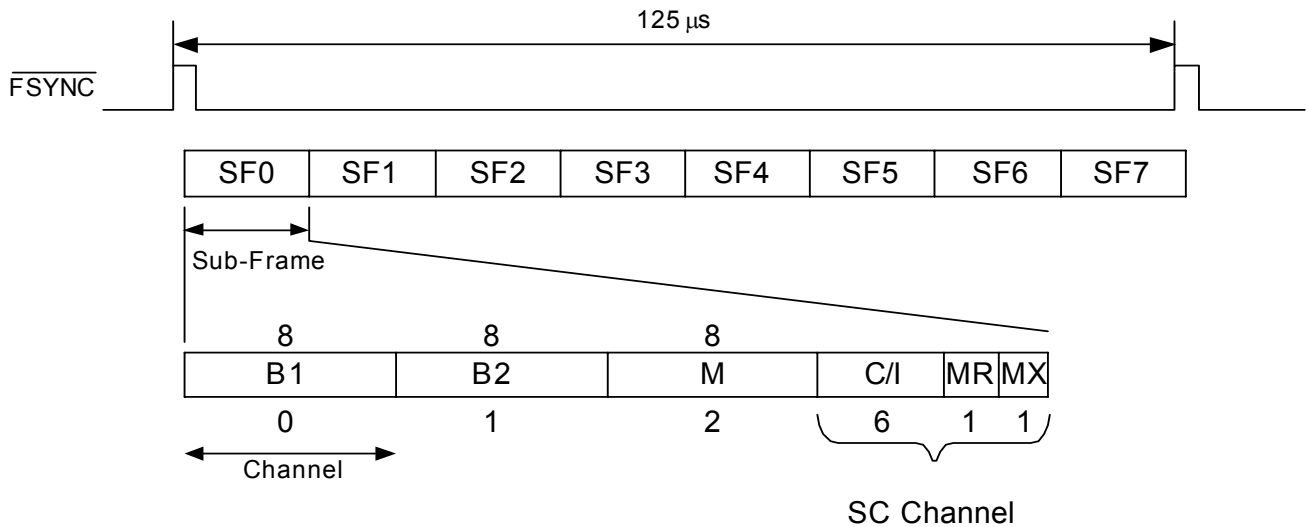

Figure 41. Time-Multiplexed GCI Highway Frame Structure
The GCI highway requires either a 2.048 or 4.096 MHz clock frequency on the PCLK pin, and an 8 kHz frame sync input on the FSYNC pin. The overall unit of data used to communicate on the GCI highway is a frame, which is 125 μs in length. Each frame is initiated by a pulse on the FSYNC pin and the rising edge signifies the beginning of the next frame. In 2x PCLK mode, there are twice as many PCLK cycles during each 125 μs frame versus 1x PCLK mode. Each frame consists of eight fixed timeslot sub-frames that are assigned using the Sub-Frame Select pins as described in Table 21 on page 39 (SDI_THRU, SDO, and $\overline{\text{CS}}$). Within each sub-frame are four channels (bytes) of data, including the two voice data channels (B1 and B2), one Monitor channel (M) for initialization and setup of the device, and one Signaling and Control channel (SC) for communicating status of the device and for initiating commands. Within the SC channel are six Command/Indicate (C/I) bits and two handshaking bits (MR and MX). The C/I bits are used for status and command communication, whereas the handshaking bits Monitor Receive (MR) and Monitor Transmit (MX) are used for data exchanges in the Monitor channel. Figure 41 illustrates the contents of a GCI highway frame.